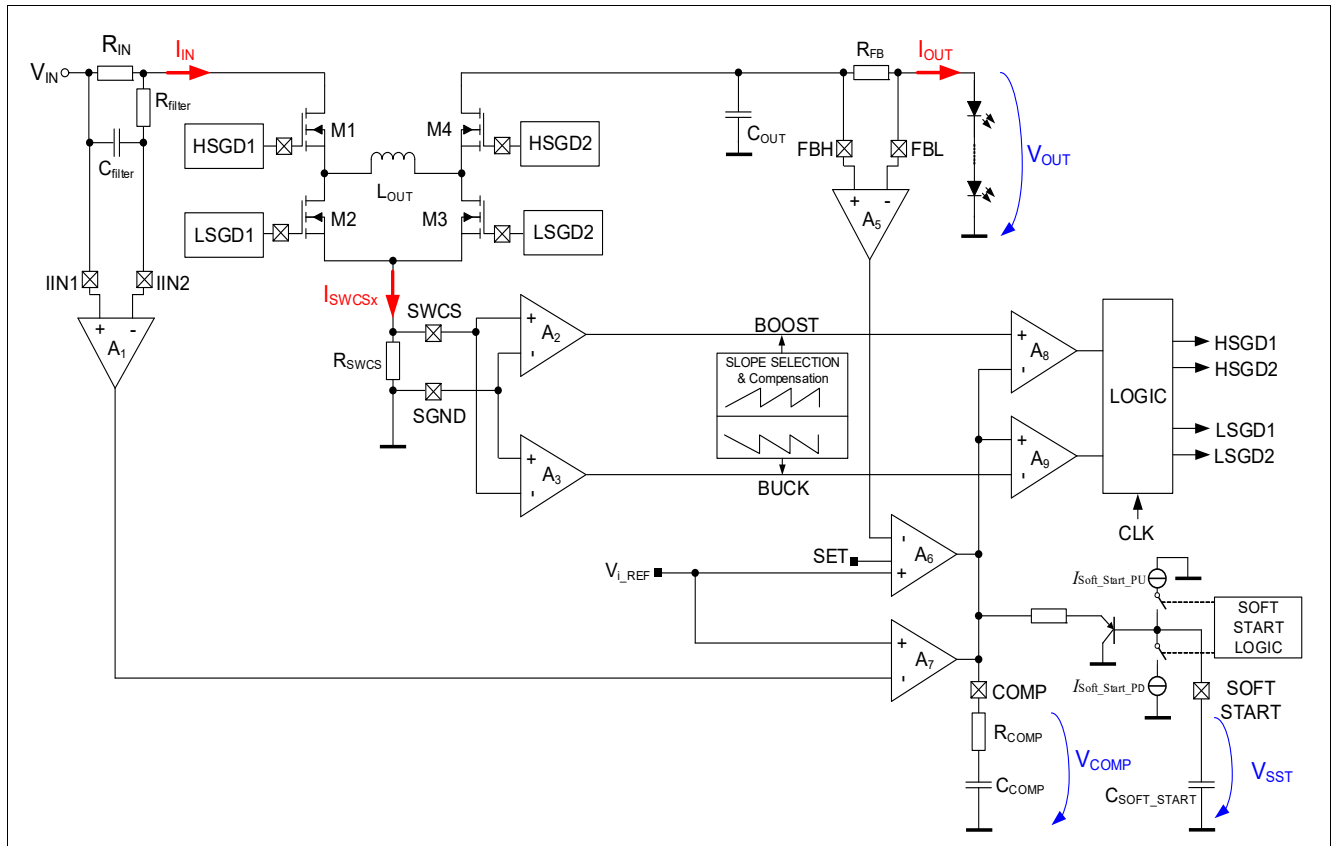

Figure 7 Regulator block diagram with soft start circuitry - TLD5190
The TLD5190 includes two analog current control inputs (IIN1, IIN2) to limit the maximum Input current (Block A1 and A7 in Figure 7).
The control loop block diagram displayed in Figure 7 shows a typical constant current application. The voltage across R_{FB} sets the output current. R_{IN} is used to fix the maximum input current.
- Limit input inrush current and output overshoots by limiting Vcomp (**Figure 7**) in boost mode
The Soft Start routine limits the inrush current by clamping the COMP pin through a buffer as in **Figure 7**. Therefore this functionality is effective only when soft start capacitor is sufficiently larger than the COMP capacitor and its effect is visible mainly in buck-boost and boost regulation mode.